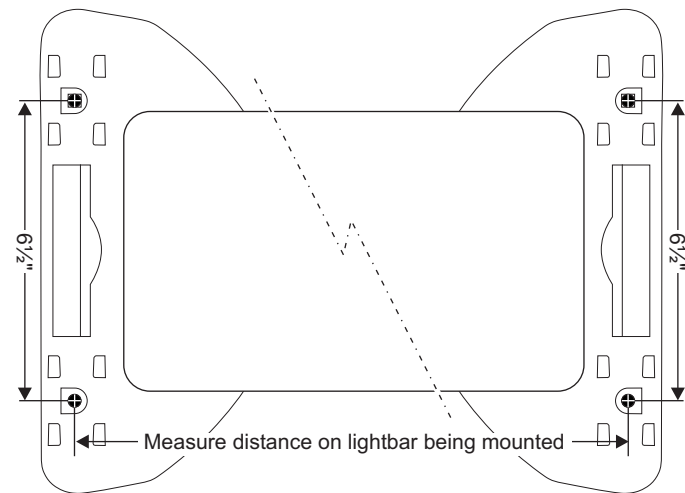

**Fig. 3**
5. With the lightbar in position on the vehicle, slide the end of the mounting strap (with the single hole) into the mounting foot as shown and loosely secure it to the foot with the tension bolt (Fig. 3). **NOTE: When the opposite end of the strap (which mounts to the vehicle) is in its mounting position (on the edge of the roof) the end of the strap going to the foot should be no more than 3/8" from the cage nut it mounts to. If the distance from the strap to the cage nut is greater than 3/8", remove the lightbar from the vehicle and move both mounting feet the necessary distance to correct this before doing step 5.**
6. Bring the outside of the mounting strap down to the edge of the vehicle roof. The outer end of the strap should hook around the roof (Fig. 3). Mounting straps are made for specific vehicles and the one designed for your vehicle will conform to the edge of that roof.